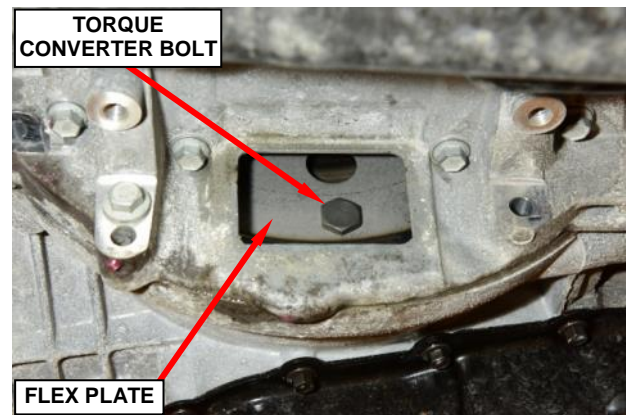

Figure 92 – Torque Converter Bolt
77. Remove and discard the four bolts fastening the flexplate to the transmission torque converter (Figure 92).